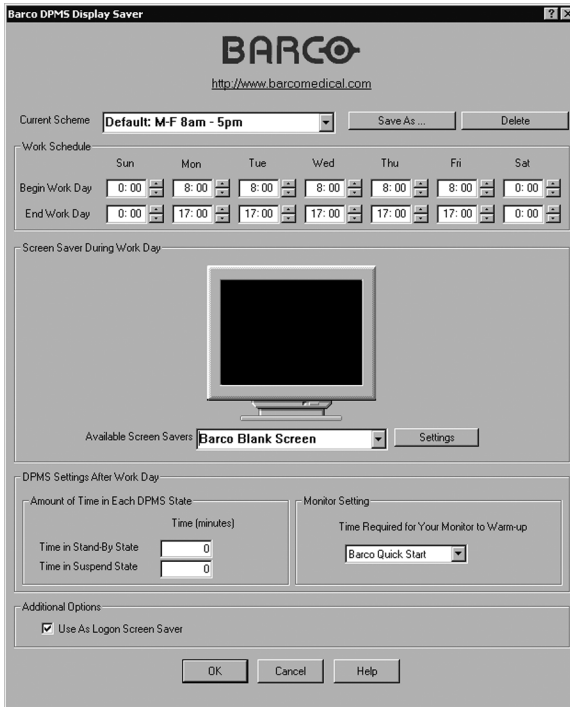

Figure 35: BARCO DPMS Settings Control Panel
- Click on the “**Settings**” button. The “BARCO DPMS Screen Saver Control Panel” will open (see figure 35).